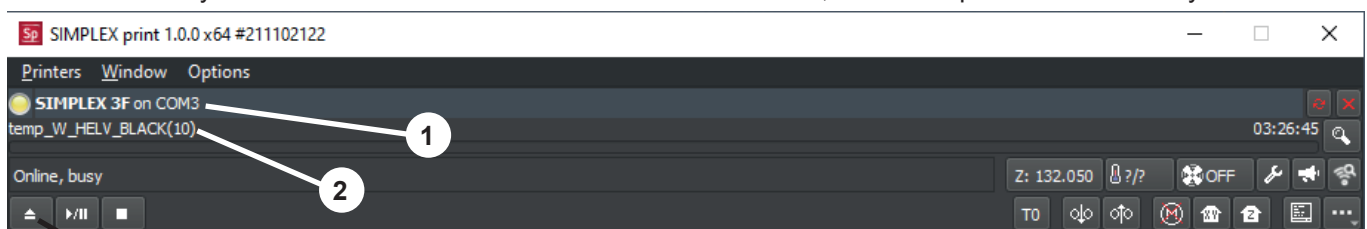

Fig. 4
- ♦ The SIMPLEX is shown in the status bar (1, Fig. 4)
- ⇒ Select and load the G-Code by clicking the load button (3, Fig. 4).
- ♦ The corresponding file name is shown in the status bar (2, Fig. 4)